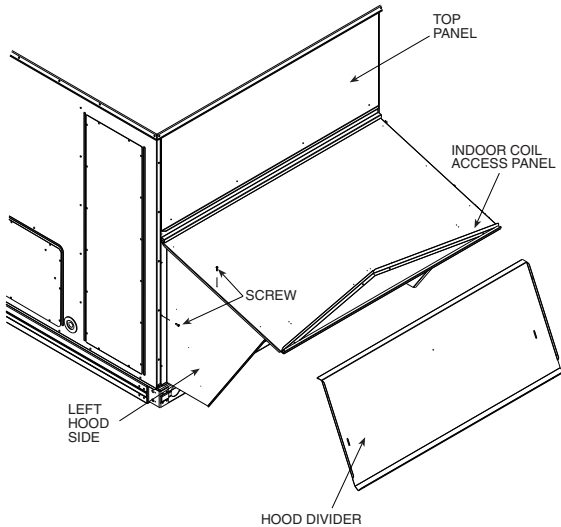

Fig. 28 — Economizer Hood Construction (Size 16 Shown)
2. Swing out indoor coil access panel and insert the hood sides under the panel (hood top). Be careful not to lift the panel too far, as it might fall out. Use the screws provided to attach the hood sides to the hood top. Use screws provided to attach the hood sides to the unit. See Fig. 28.
4. Insert the hood divider between the hood sides. See Fig. 28 and 29. Secure hood divider with 2 screws on each hood side. The hood divider is also used as the bottom filter rack for the aluminum filter.